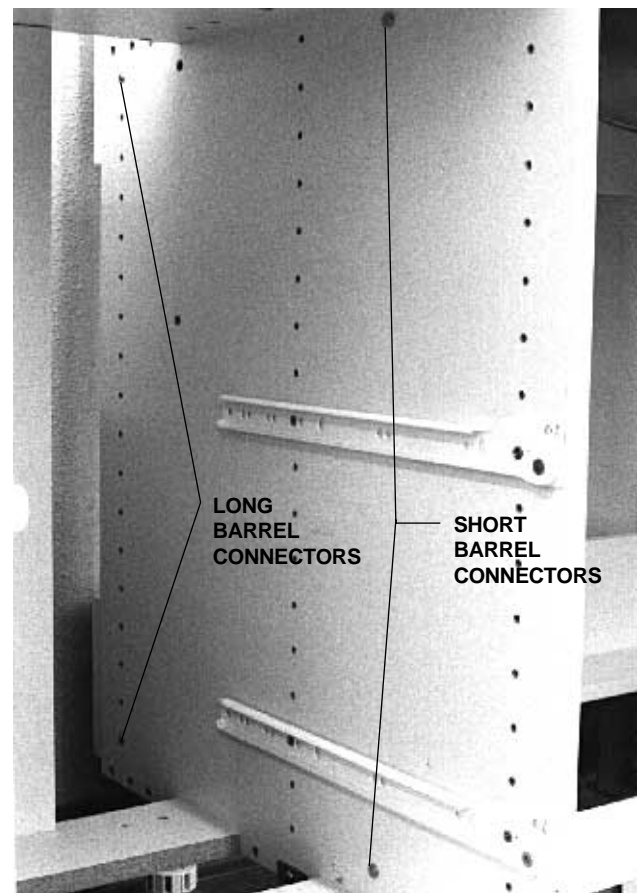

FIGURE 8
- Insert the two short barrel connectors through the wall of the large lower module in the positions shown in Figure 8.
- Insert the two long barrel connectors through the wall of the large lower module in the position shown in Figure 8.